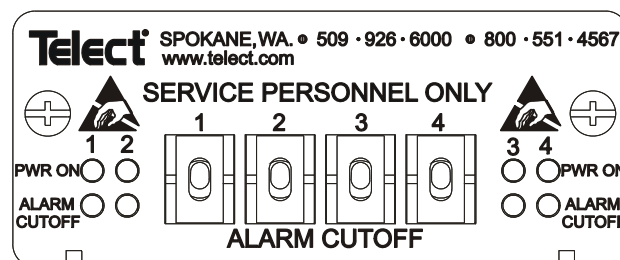

Figure 6 - LEDs & ALARM CUTOFF Switches on Front Panel
- Whenever power is supplied, expect corresponding PWR ON LED to light. See Figure 6.)